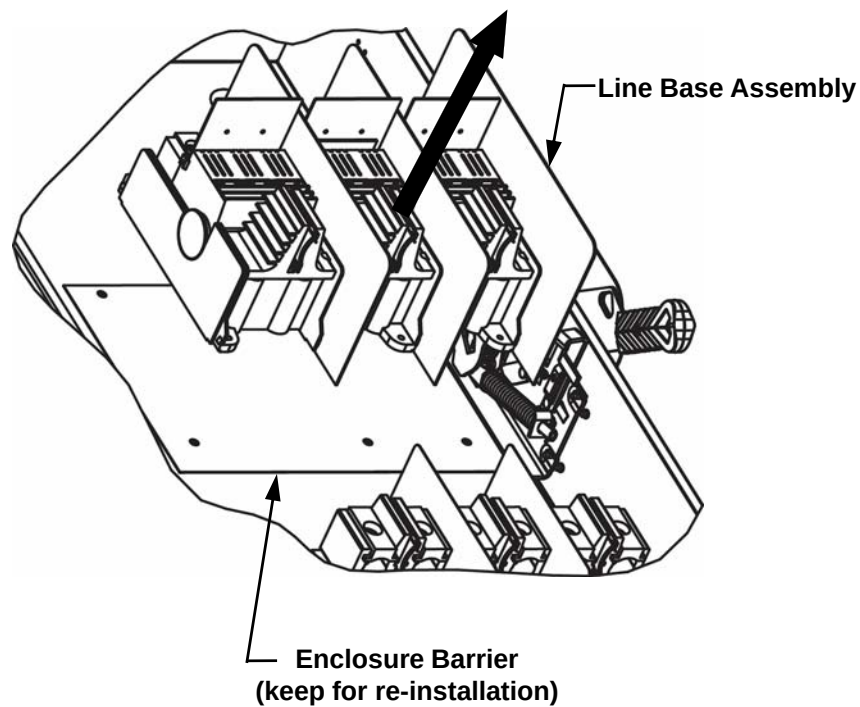

Fig. 5
4. Lift the line base assembly and enclosure barrier out of enclosure as shown Fig. 5.